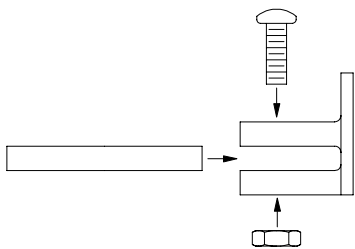

Figure 2 - Suspension Arm & Window Mount
4. Using a #8 machine screw and a #8 machine nut, loosely assemble a suspension arm to a window mount (as shown in Figure 2). Repeat for the second suspension arm and window mount.